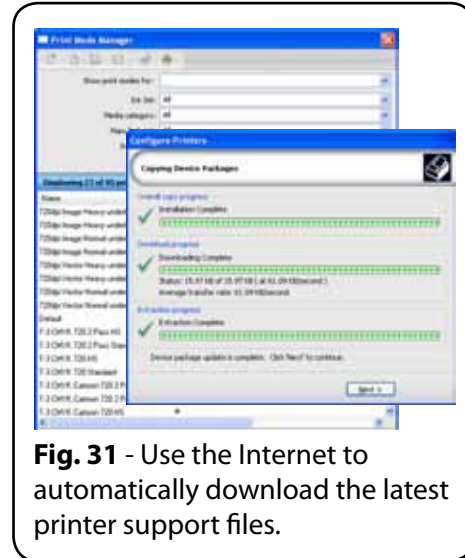

Fig. 31 - Use the Internet to automatically download the latest printer support files.
- **Online Printer Support File Updates** – Visual Production Manager already comes equipped with a broad selection of media profiles, which are organized according to printer model, media, inks, print speed, and print quality. The latest support files can be quickly obtained through your Internet connection (Fig. 31).